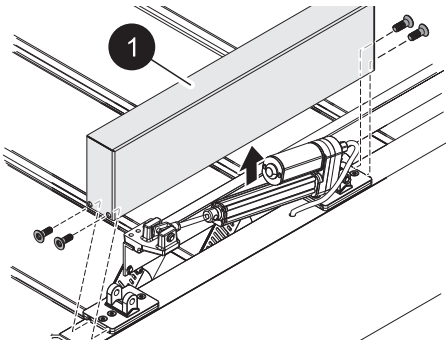

Fig. 21: Remove motor protection cover
4. Remove actuator protection cover (Abb. 21/1)